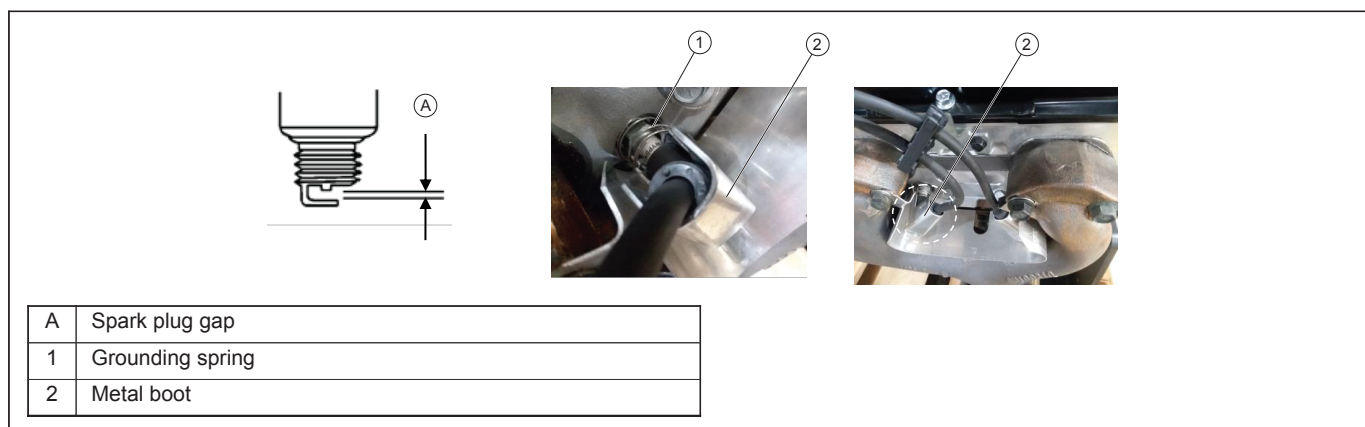

Figure 27: Spark Plug Gap
3. Remove the metal boot from the spark plug wires. Disconnect the spark plug wires and remove the grounding spring. See Figure 27.
7. Use a spark plug gap tool to measure the gap on each spark plug. Adjust the gap to specification. See Figure 27.
10. Insert the grounding spring over the spark plug. See Figure 27.